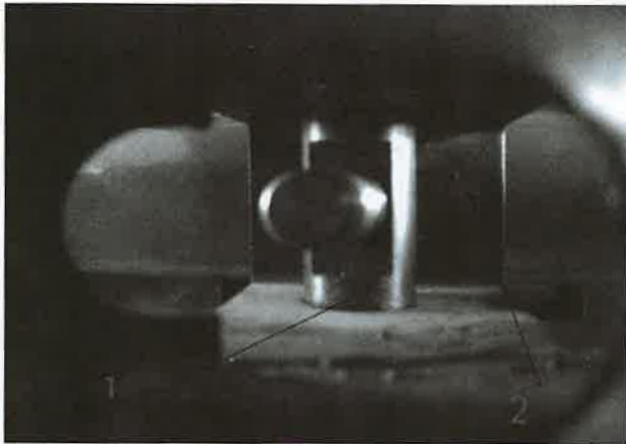

Fig 4-7
4.2.10 Insert the piston rod from the hole of the bead breaker slide bushing (Fig4-7-1). The plane of the slide bushing face outwards (Fig4-7). Screw the screws detached into the front end of the piston rod.